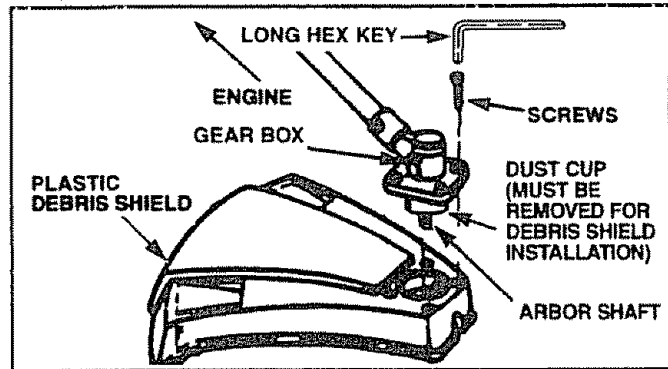

Figure 2
### INSTALLING THE PLASTIC DEBRIS SHIELD (Fig. 2)
- Remove the dust cup from the arbor shaft (ref Fig. 2).